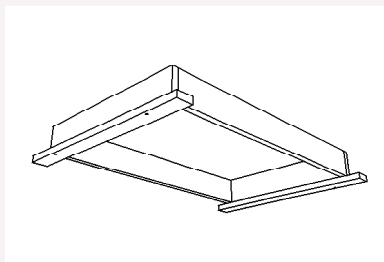
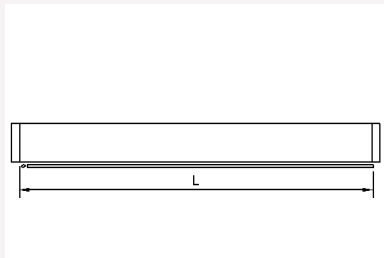

fig 11
fig 12
1. Screw two temporary cleats that are the full width of the opening to the ceiling (figure 11). Fix one cleat at the hinge end protruding 15mm into the opening. The other, at the opening end, must protrude 15mm into the opening also. The distance between these cleats must be $L + 10\text{mm}$ as seen in figure 12.